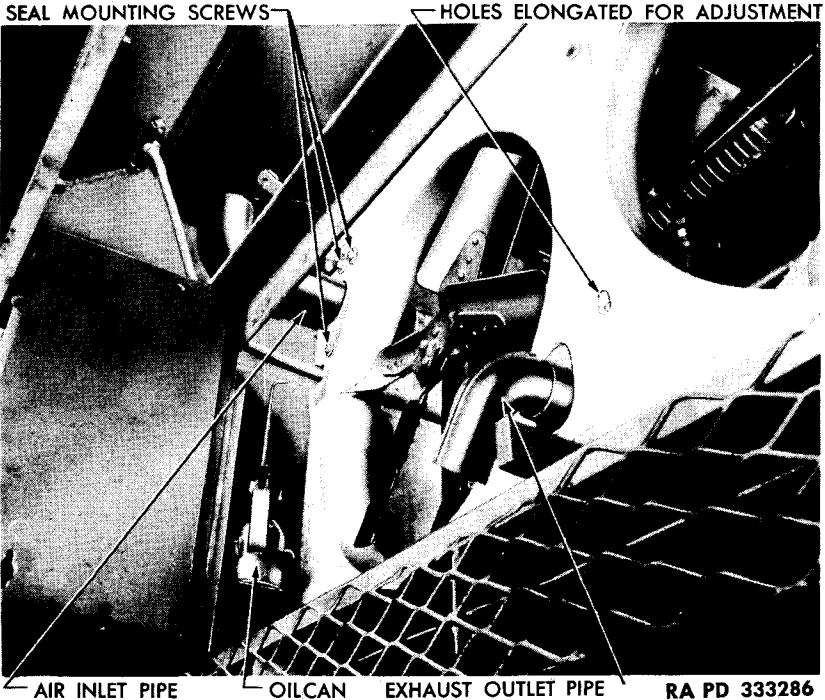

Figure 25 — Fan Shroud Mountings
(2) **REMOVE FAN SHROUDS (early type M8).** Loosen clamp bolts to disconnect exhaust outlet pipes and remove the pipes. Remove three screws from the seal around each carburetor intake pipe, and slide seals toward the rear. Remove screws from fan shrouds (fig. 25) and remove shrouds.
(24) **INSTALL FAN SHROUDS.** Position fan shrouds on rear of engine compartment and install screws and lock washers (fig. 25). Position plate around carburetor air inlet pipe, and install three screws. Center fan shrouds around fans. Connect exhaust outlet pipes to mufflers, and tighten clamps. Position oil-bath type crankcase ventilator air cleaner braces (late type M8) on fan shrouds, install four screws, and connect ventilator line to air cleaner. Close engine compartment doors; lubricate and install six screws, leaving center screw out. Swing deflector into place and install remaining screw. **NOTE:** *Early type M8's were not equipped with deflectors.* Install seven screws after closing doors.